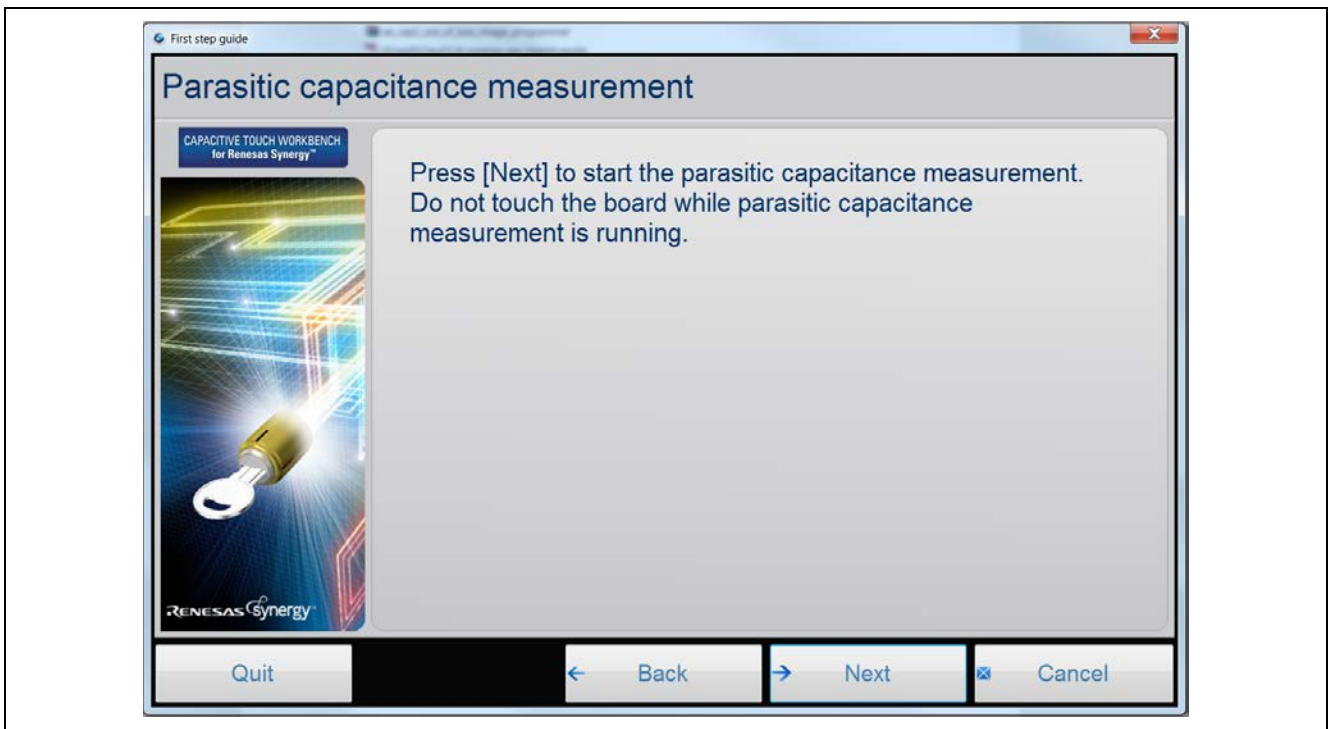

Figure 19. Parasitic Capacitance Measurement
1. Click **Next** (as shown in Figure 19) to start parasitic capacitance measurement.